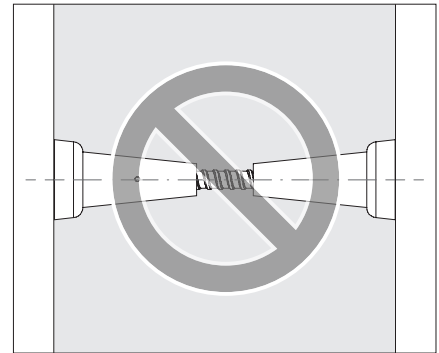

Fig. F2.01b
- ⇒ Do not install two cones against each other. (Fig. F2.01b)